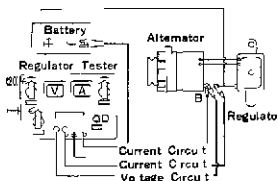

Fig 8 27 Test Circuit G0150
3. Disconnect the B terminal lead wire from the alternator and connect a voltmeter and an ammeter as shown in figure 8 27
5. Make the same connection as shown in figure 8 27